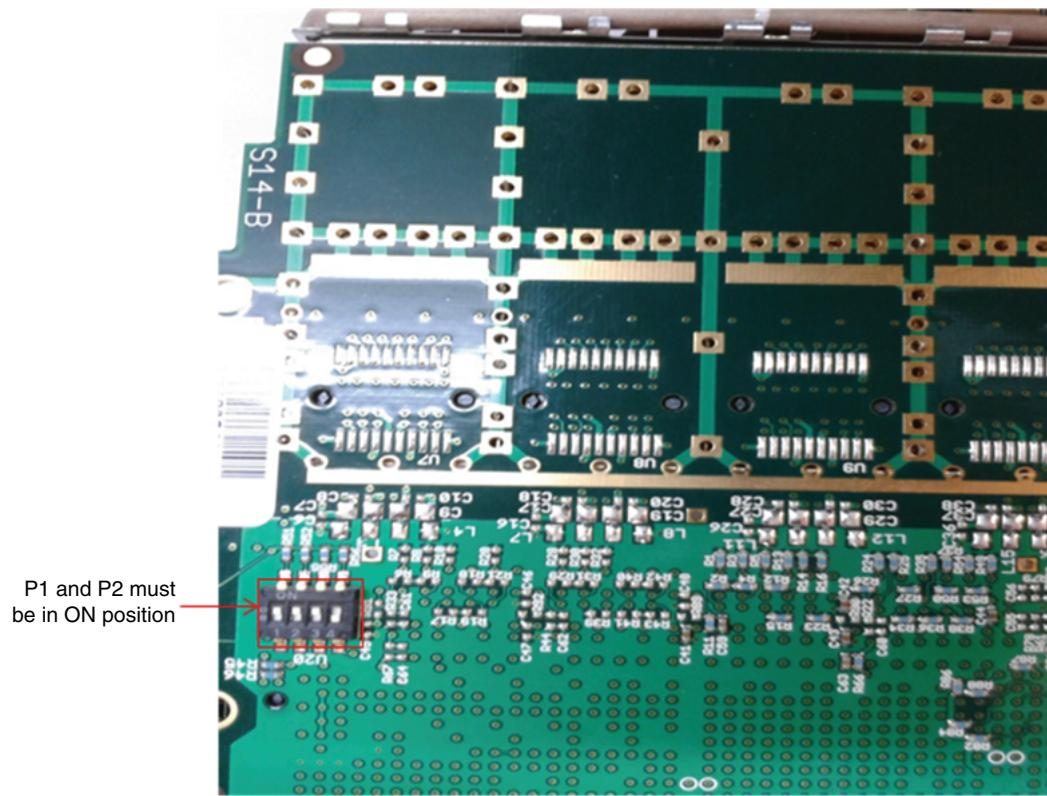

Figure 2-1: DIP Switch Position on FMC Card
1. With the power supply turned off, ensure that switches P1 and P2 on the FM-S14 FMC card are in the ON position, as shown in Figure 2-1.